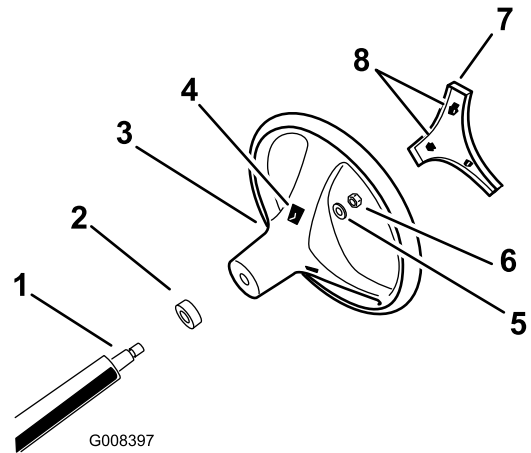

Figure 3
5. Secure the steering wheel to the shaft with the nut (Figure 3).